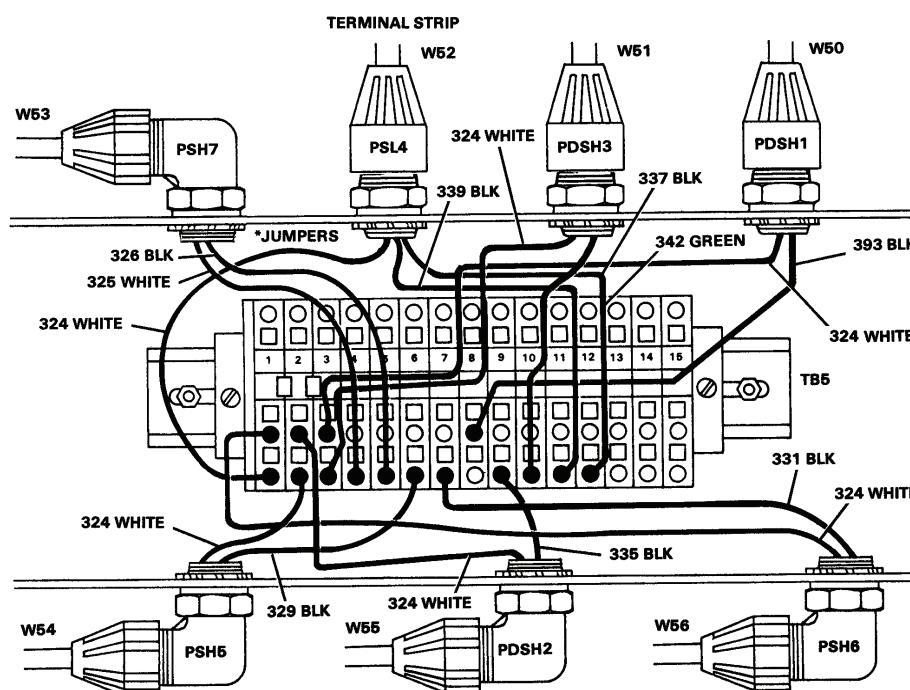

Figure 2. Pressure Switch Panel junction Box.
1. Install rail (54) in box (4) and secure with screws (50), nuts (51), lockwashers (52) and washers (53).
2. Install screw (44), stop plate (45), end plate (46), terminals (47), jumpers (48) and markers (49) on rail (54) (WP **0128** 00, TM 10-4610-232-12).
3. Place gasket (43) on wiring harness assembly wires (5) and install harness assembly (5) on cover (38) using capscrews (40), nuts (41) and lockwashers (42).
4. Position box (4) on bracket (30) and install cover (38), gasket (39), cover (36) and gasket (37) and secure with capscrews (31), washers (32), nuts (33), lockwashers (34), washers (35), capscrews (24), washers (25), nuts (26), lockwashers (27) and washers (28) and washers (29).
- a. Slide nuts (18), retainers (19), and bushings (20) on cable wires (6) to be installed.
- b. Place sealing washer (23) on body connectors (22) (either elbow or straight) and secure the body in box (4) with conduit nut (21).
- c. Insert the cable wires (6) from cable being installed through body (22) just installed. Connect wires to the terminal strip as tagged. If the marking tags are lost or illegible refer to Figure 2. Refer to (WP 0043 00, TM10-4610-232-12) for procedures.
- d. Connect wiring harness wires (5) as tagged. (WP 0043 00, TM 10-4610-232-12).
- e. Tighten nut (18).
- a. Install pressure switch connector (17).
- b. Slide nut (14), retainer (15) and bushing (16) on cable wires (6) and insert the two wires from cable wires (6) into appropriate pressure switch (12).
If the marking tags are lost or illegible refer to Figure 2